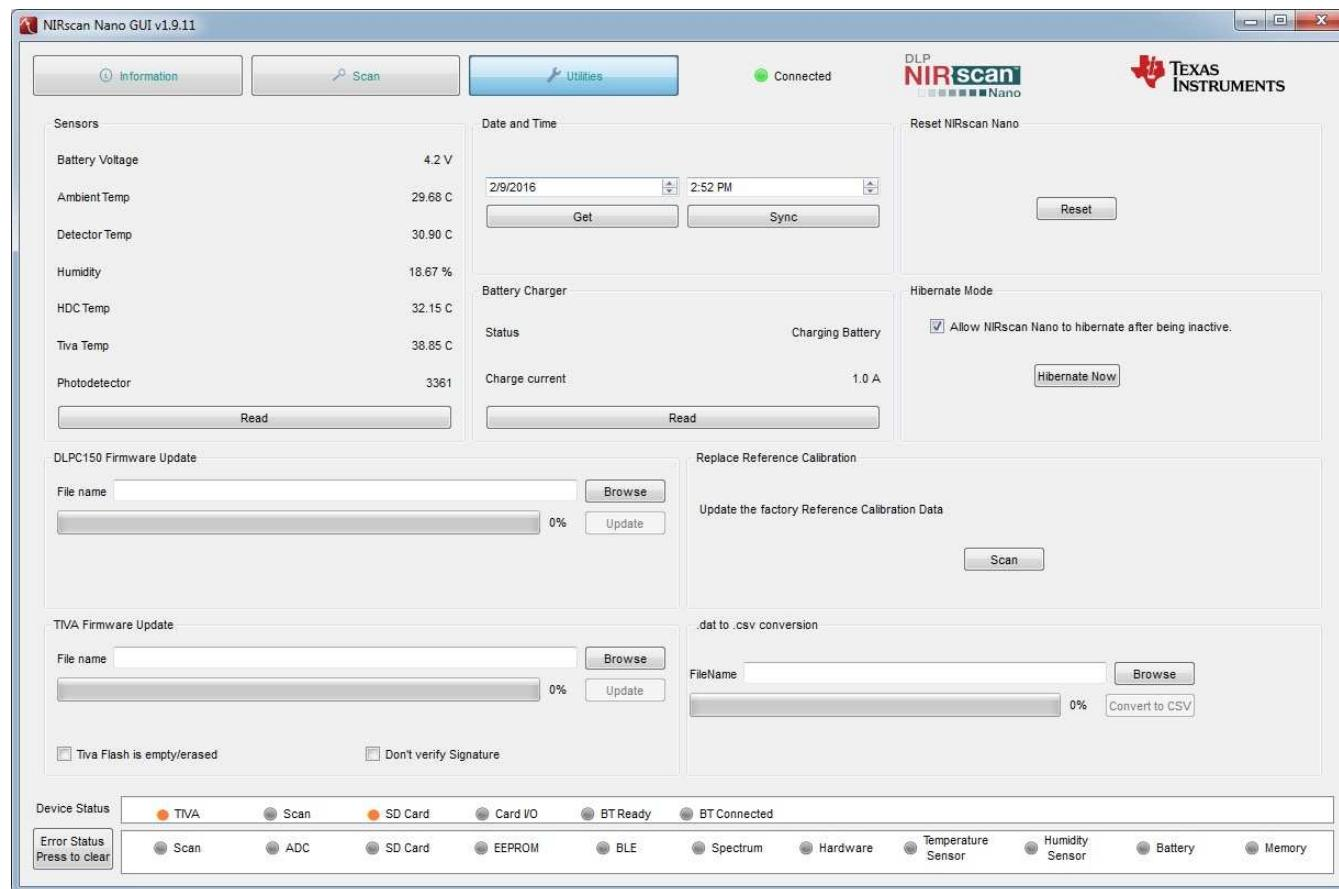

Figure 3-11. DLP NIRscan Nano GUI Utilities Screen
- Click on "Convert to CSV" button to start the batch conversion process from binary to CSV format. See Figure 3-11.
SD Card data is stored as binary data with filename extension ".dat". The scan data is stored under the root folder under a folder named according to the serial device name of the DLP NIRscan Nano. To batch convert all the binary data in a microSD Card to comma separated values ("*.csv"), select ".dat to .csv conversion" on the Utilities tab. See Figure 3-11.
The DLP NIRscan Nano GUI includes a Utilities screen, as shown in Figure 3-11, that displays: